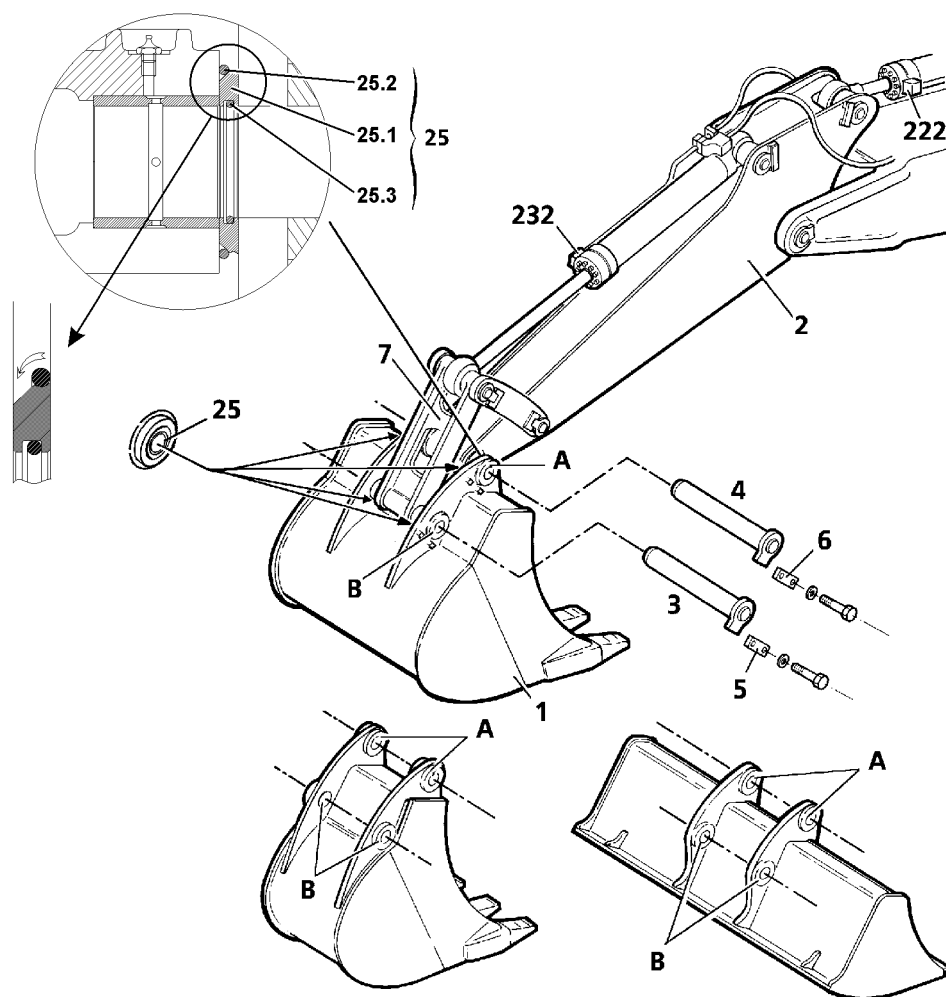

Fig. 3-90 Attaching and dismantling the bucket
- ▶ Engage the pin **4** in its bore and push it in the complete pin bearing sealings **25** between bucket and stick while pressing in the pin. Observe the correct installation direction of the complete pin bearing sealings **25** (siehe Fig. 3-90).
- ▶ Make the O-rings **25.1** slide to the interior (siehe Fig. 3-90).
- ▶ Engage the pin **3** in its bore and push it in the complete pin bearing sealings **25** between bucket and stick while pressing in the pin. Observe the correct installation direction of the complete pin bearing sealings **25** (siehe Fig. 3-90).